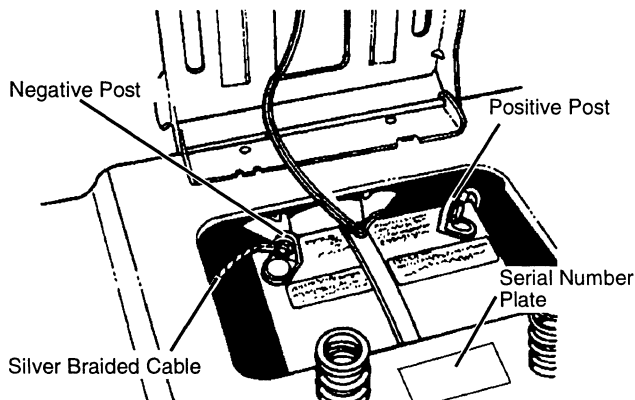

FIG. 6
- Connect the red battery cable to the positive terminal (+) with a 6 mm hex head bolt and 6 mm flange nut from the bag of parts and tighten securely. (See Fig. 6)